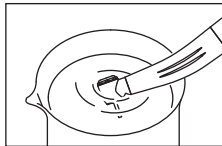

Fig. 12
- 3) Immerse half of the head in clean water while the handpiece is running. (Fig. 12)